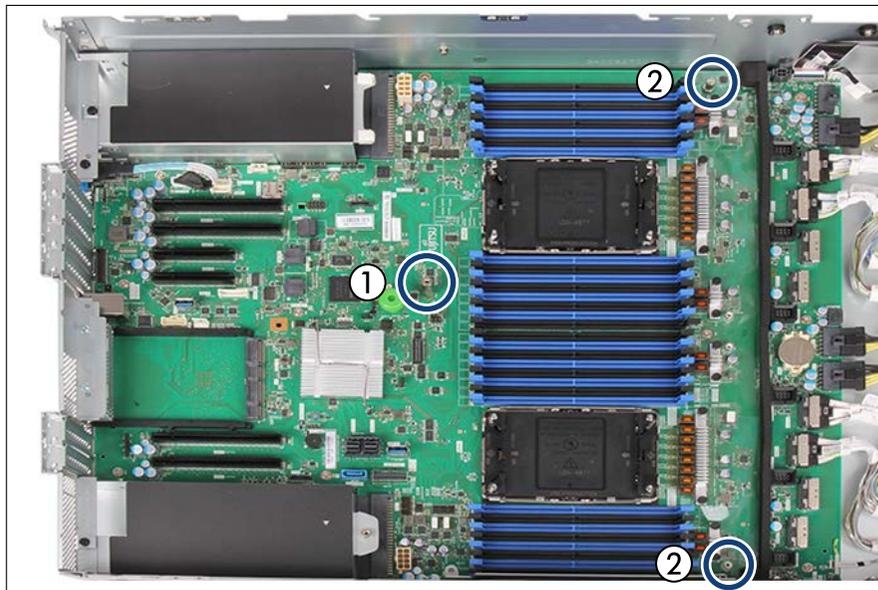

Figure 353: Position of the hexagon standoff and the specific screws
- ▶ Fasten the system board with the hexagon standoff, see Figure 353.